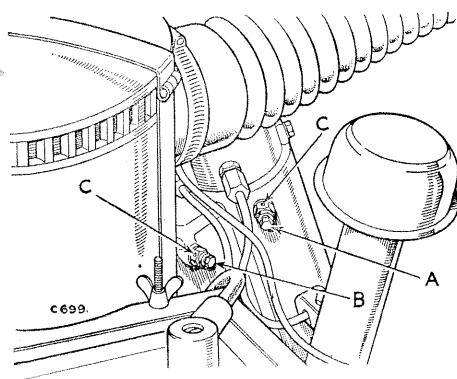

Fig. M-28—Priming the fuel system
8. Release air vent screw (A) on distributor pump. See Fig. M-28.